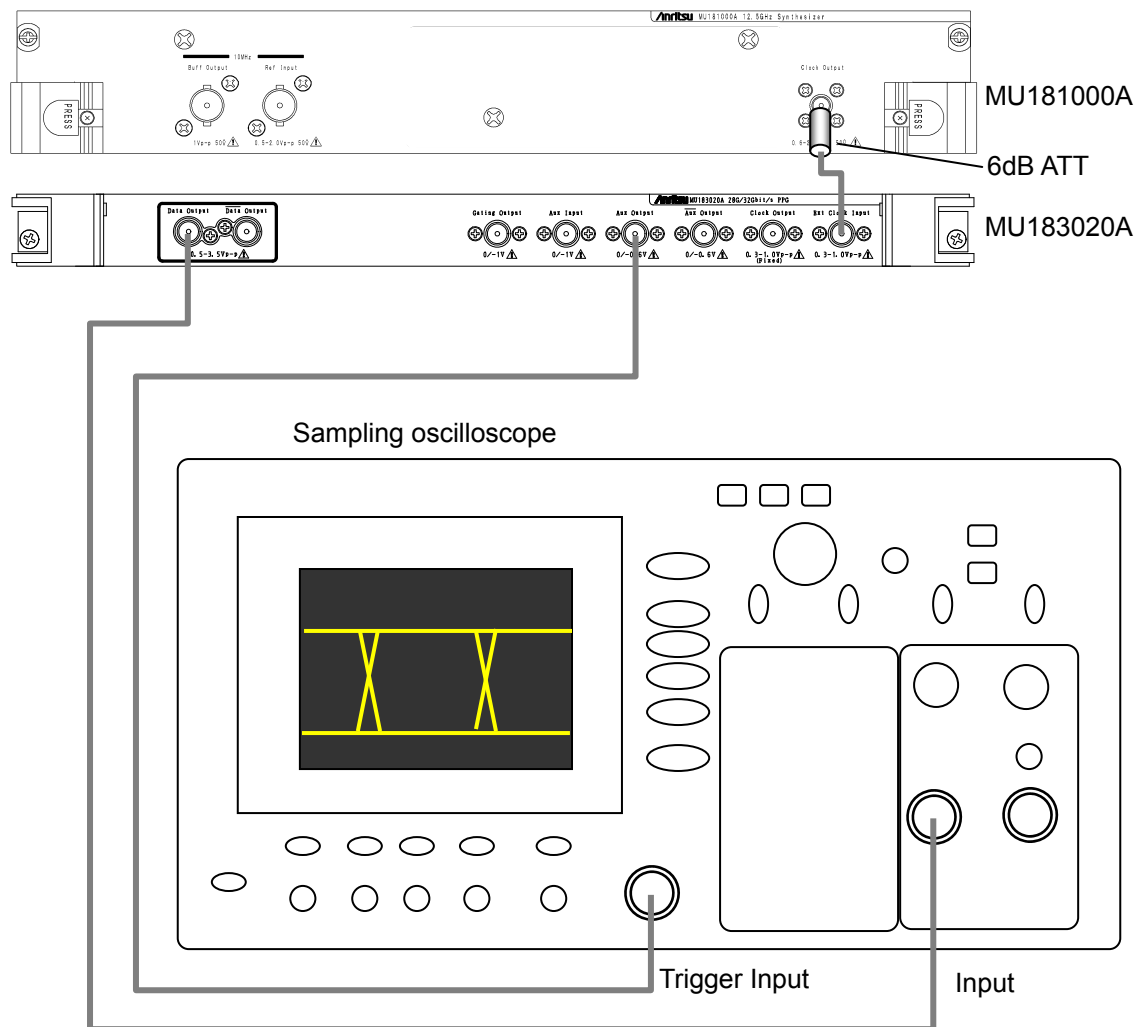

Figure 8.3.2-1 Connection diagram for waveform test
6. Connect the measuring instrument cables as shown in Figure 8.3.2-1.
8. After warming up the instruments, enable the MP1800A signal output (ON) and output signals.